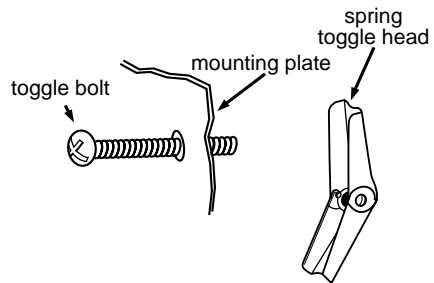

Figure 22
2. If you have drywall, Prepare the toggle bolts (not included) by putting the bolts through the corner holes and attaching a spring toggle head to the end of each toggle bolt as shown in Figure 22.
3. Place the mounting plate against the wall and match the screw holes. See Figure 22.